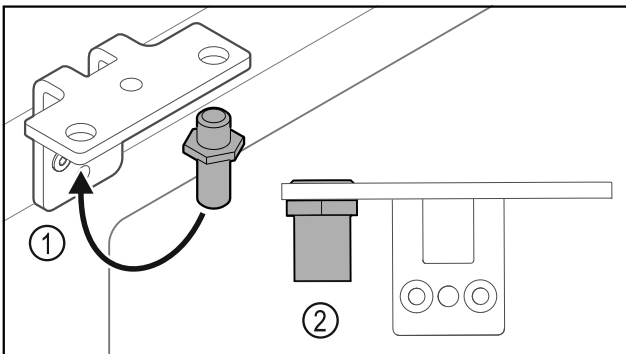

Fig. 38
- ▶ Put the pin back into the hinge Fig. 38 (1).
- ▶ Tighten the pin Fig. 38 (2) to a **torque of 12 Nm (9 ft-lb)**.